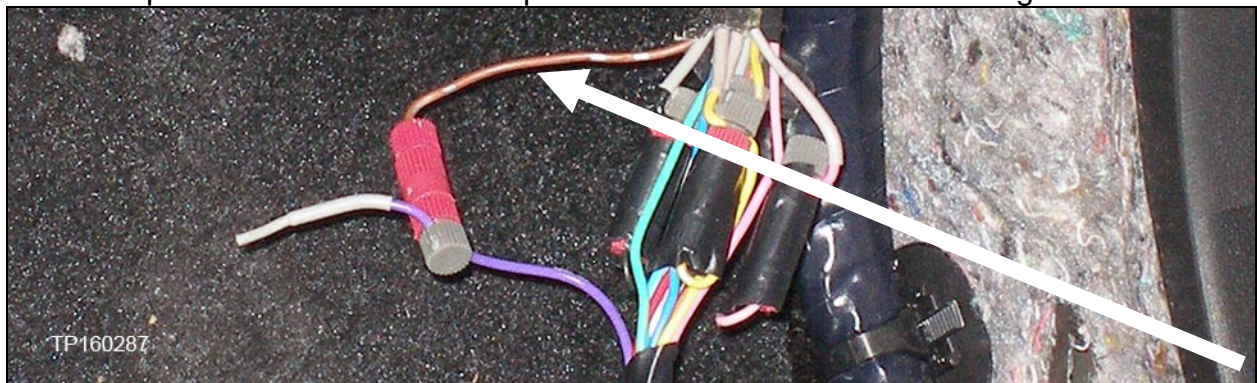

Figure 4
8. Unwrap the harness bundle to expose the BROWN wire shown in Figure 4.